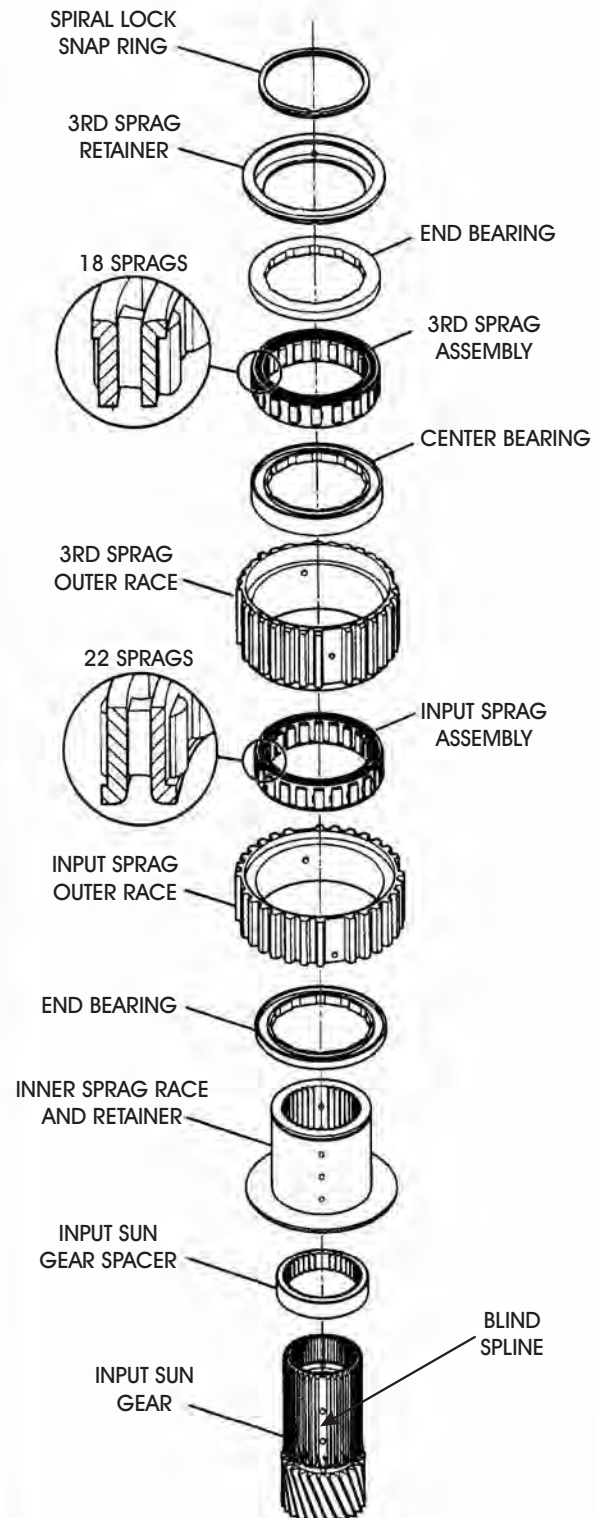
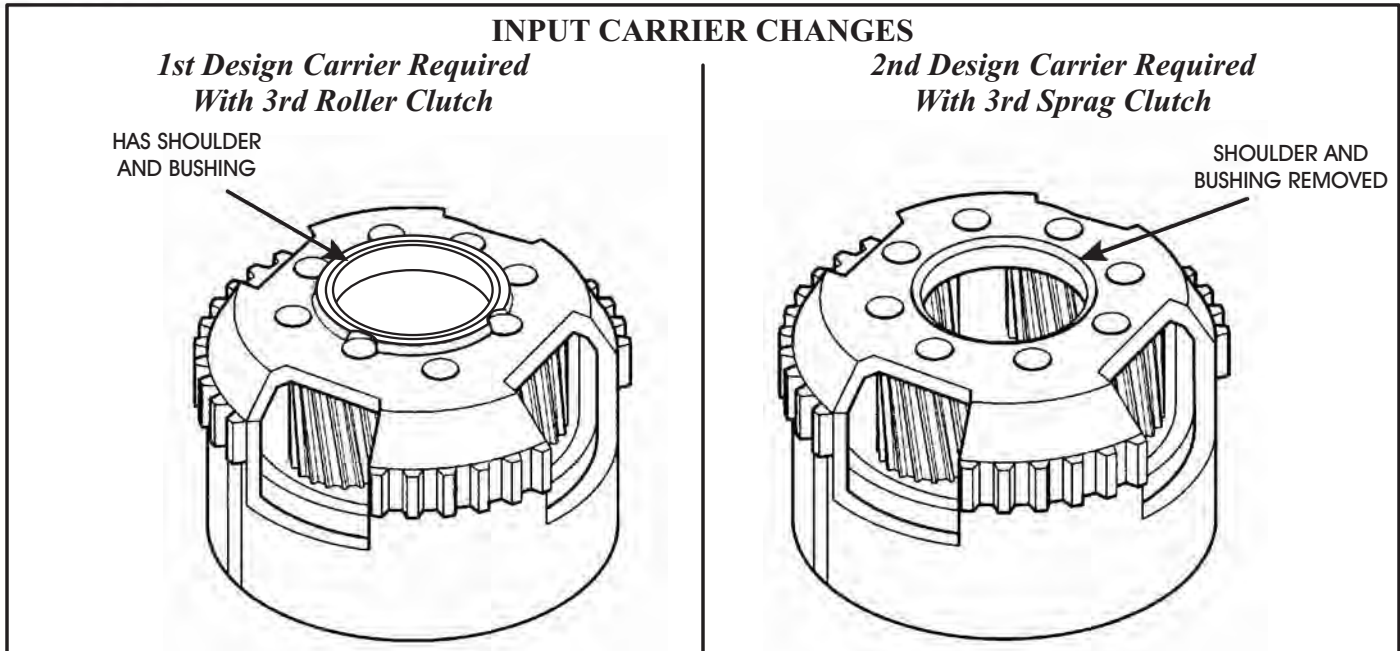

Figure 107
Figure 108
A new design dual sprag assembly replaces the previous 3rd roller clutch and input sprag assembly, as shown in Figure 107. This change occurred on February 1, 1993, as a running change. There are many dimensional changes that makes the component parts of these two different design levels non-interchangeable. The new design dual sprag assembly is only serviced as a complete assembly. The new design dual sprag also required a revised input planetary carrier, as shown in Figure 108.
3. Assemble 3rd roller clutch parts while using Figure 107 as a guide.
9. Install the sun gear spacer onto the sun gear, with the lube groove facing sun gear, as shown in Figure 107.
10. Install input sprag retainer onto the sun gear, with the recessed step facing the input sun gear spacer, as shown in Figure 107.
11. Complete the input sprag/3rd roller assembly process using Figure 107 as a guide.